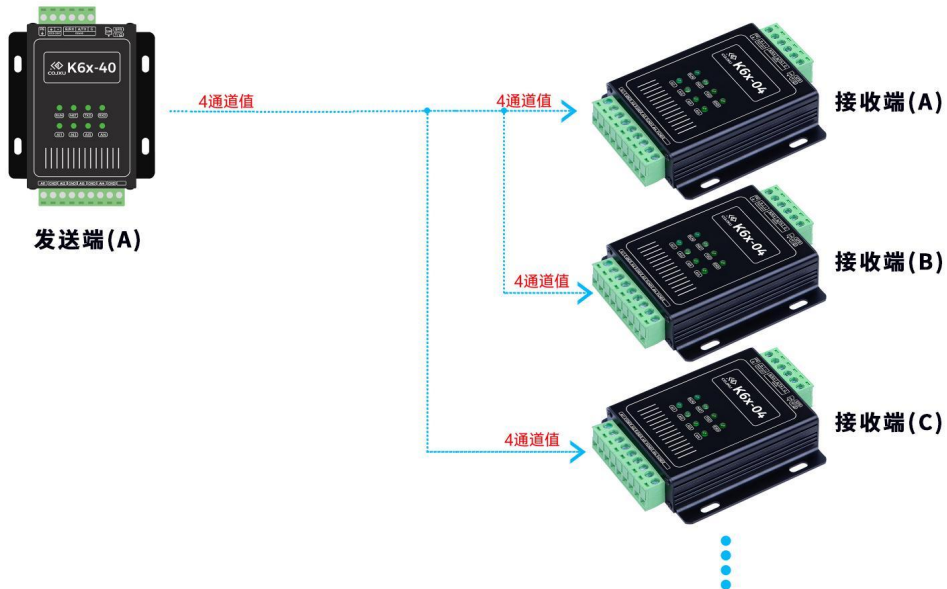

Figure 4-16 One-to-many (no reply)
3. One-to-many (no reply): the corresponding relationship between the channel values of the sender and receiver, as shown in Figure 4-16